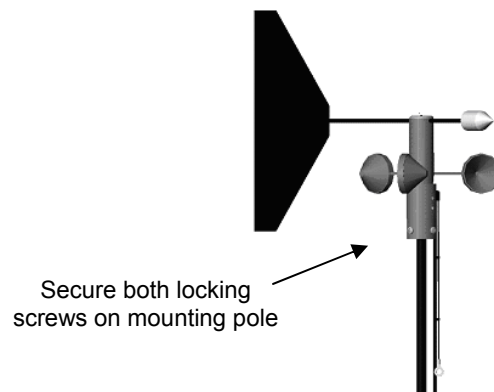

Figure 1: Mounting Sensor to Pole
- Insert the Wind Speed/Direction smart sensor into the mounting pole and secure it at the base of the sensor using the two Phillips head locking screws (see Figure 1).
6. Once you've obtained the correct position, secure the sensor by tightening the two Phillips head screws at the base of the sensor until it is firmly attached to the ½ inch diameter black mounting pole (see Figure 1).
7. Once the vane is in position, secure the sensor by tightening the two screws at the base (see Figure 1) until it is firmly attached to the ½ inch diameter black mounting pole.